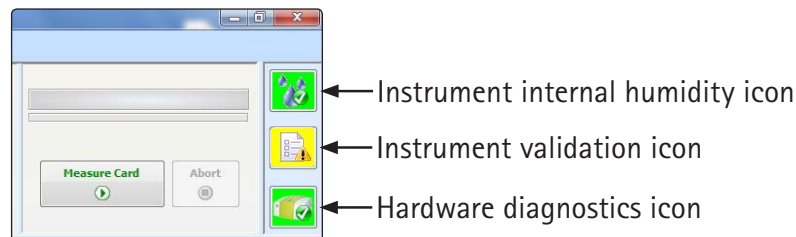

Figure 4. Instrument status icons
2. During initialization, the laser, IR source, and detector are switched on. The IR source warms up, the scanner moves forward and backward several times, and tones once. This phase takes several minutes, and the hardware diagnostics icon is yellow. After the initialization has been completed successfully, the hardware diagnostics icon turns to green, but the instrument validation icon will be yellow (Figure 4). This indicates that the PQ test has expired and needs to be run. Refer to section 13.5 for instructions on running the PQ test.